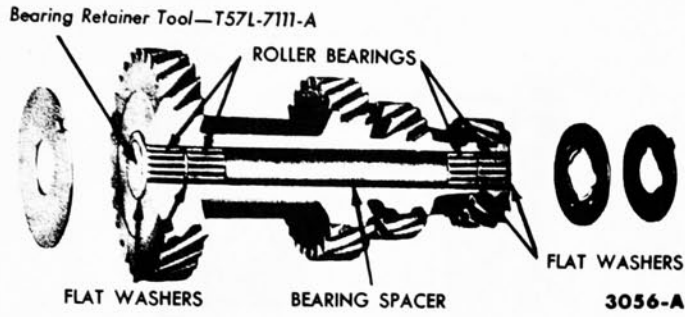

FIG. 9—Countershaft Cluster Gear
7. Position the pilot tool (Fig. 3) in the countershaft cluster gear, and slide the spacer onto the tool. Place a set of 20 rollers in each end of the countershaft gear. Slide a spacer washer onto the tool, and place another set of 20 rollers in each end of the gear. Install a spacer washer on each end of the tool, and hold the rollers in place with Lubriplate or a similar lubricant (Fig. 9).